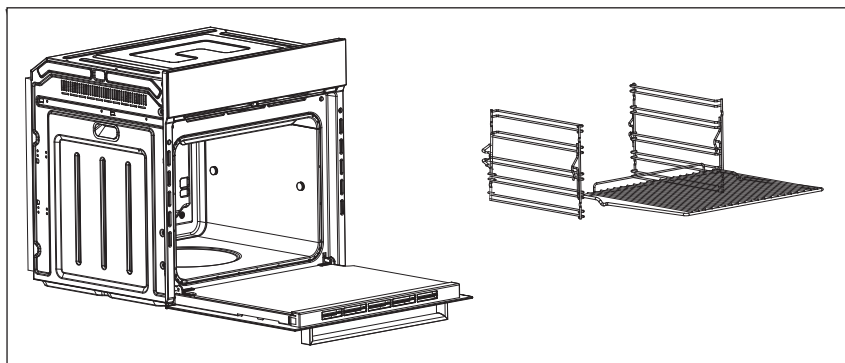

Figure 2.
- › Remove the side racks (see section below and Fig.2)
- › Finally, refit the side racks (See below and Fig.2)